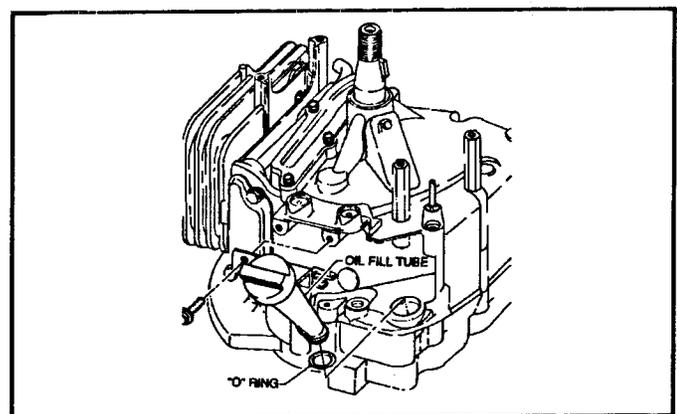

Figure 42
2. Withdraw the tube from the block of the engine. The tube is sealed with an "O" ring. See Figure 42.